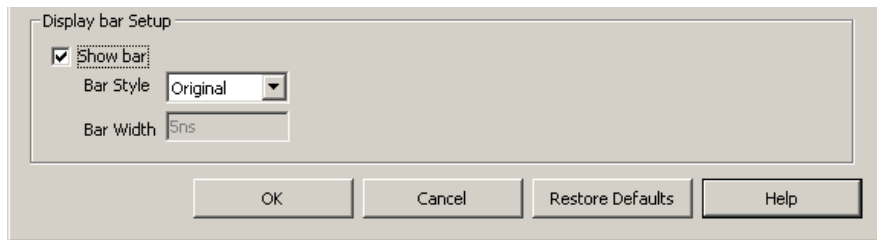

Fig4-146 - Display Bar Setup
1. Click **Show Bar** to know the length of the tested and deleted signal as shown in Fig4-146 below.